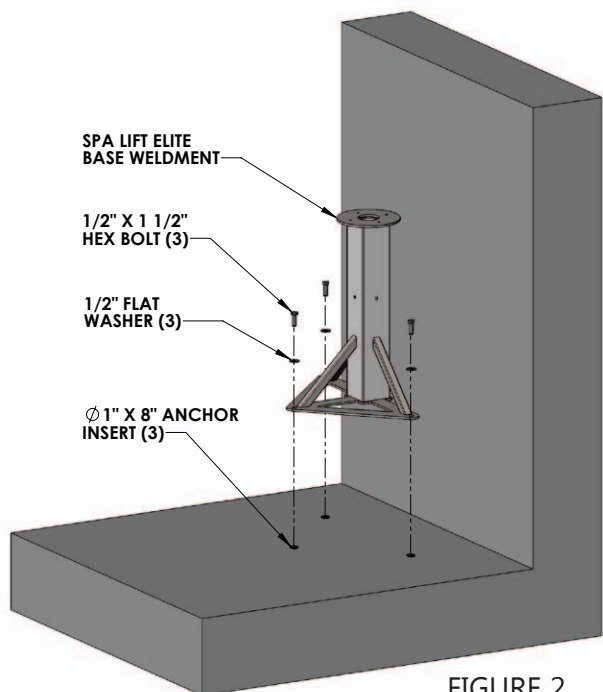

FIGURE 2
**1.** Once the anchor inserts have been installed, the base weldment can now be secured to the deck using the 1/2 inch hex bolts and flat washers. See FIGURE 2.